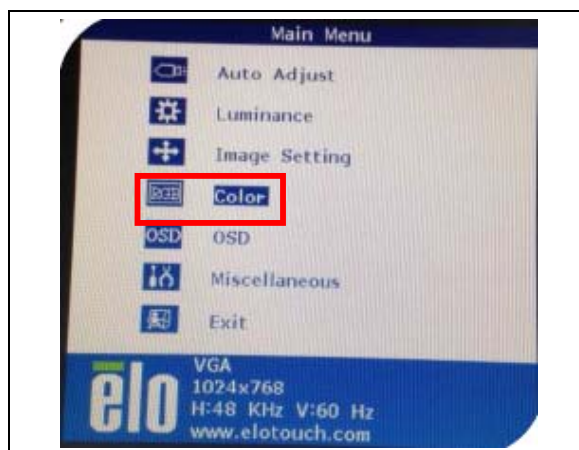

Figure 4
- (2) Press the  button several times until the **Color** option is selected. See figure 4 on the following page.